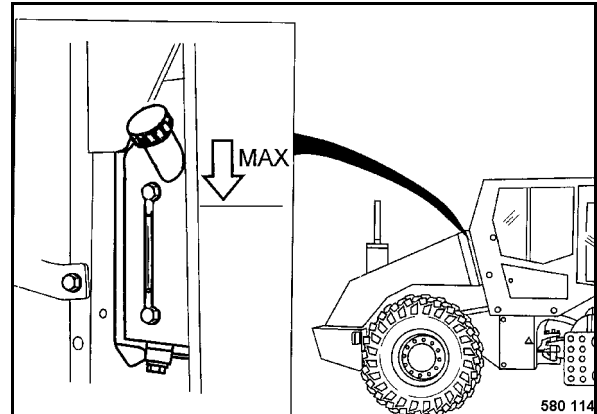

Fig. 99
- Check the coolant level (Fig. 99).